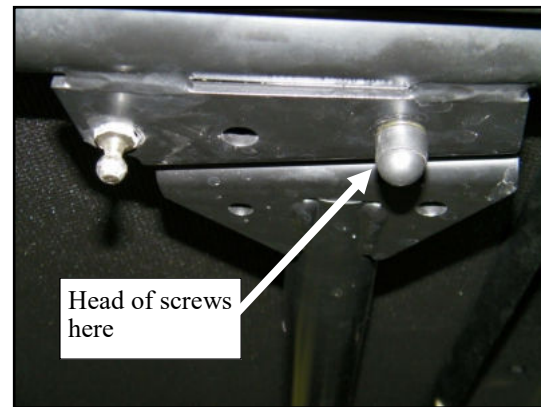

Fig. 15.1 (view of passenger's side)
15.1 Install nut covers on the interior locknuts that are fastened to the (2) 2-3/4" long screws per fig. 15.1. Repeat for opposite side.